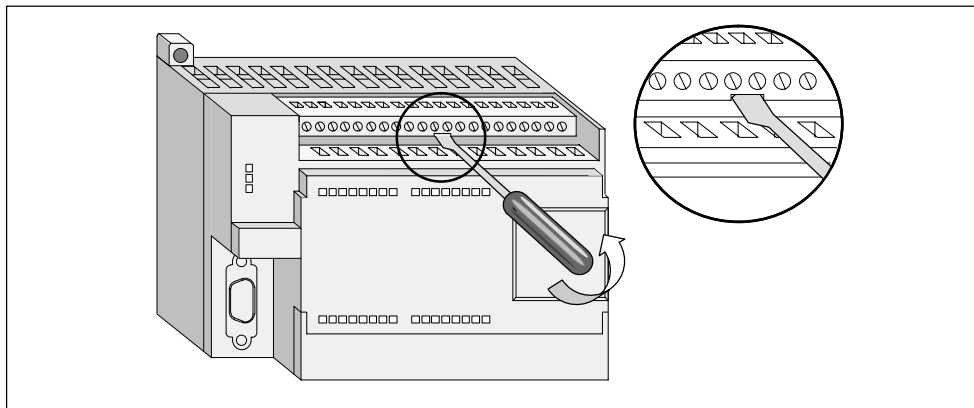

Figure 2-10 Removable Terminal Block Connector for the CPU 224 and I/O Expansion Modules.
The removable terminal block connector (Figure 2-10) allows field wiring connections to remain fixed when you remove and re-install the S7-200 CPU and I/O expansion modules.
2. Insert a screwdriver in the notch in the middle of the terminal block as shown in Figure 2-10.